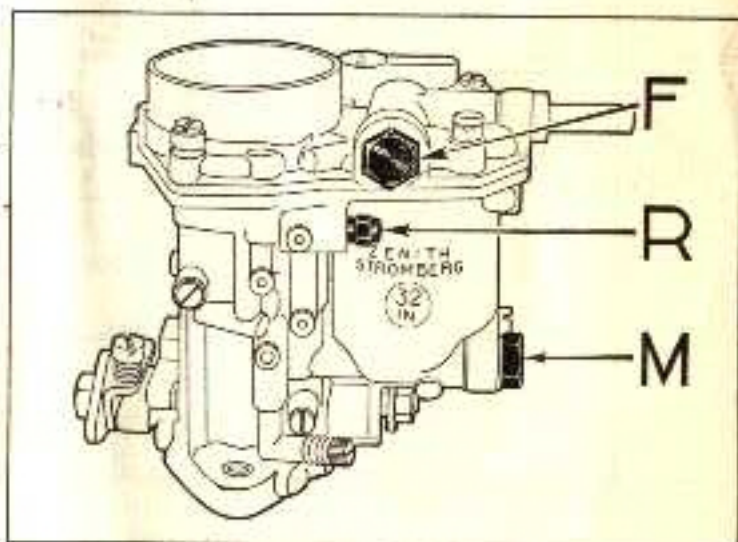

Fig. 4. — CARBURETTORS.
The two illustrations on p. 9 indicate the points which may need cleaning: Filter F; main jet M; slow running jet R (2) (fig. 4).
(1) Note. — We fit either SOLEX or ZENITH carburettors.
(2) Blow these jets clean; never use a needle or piece of wire.